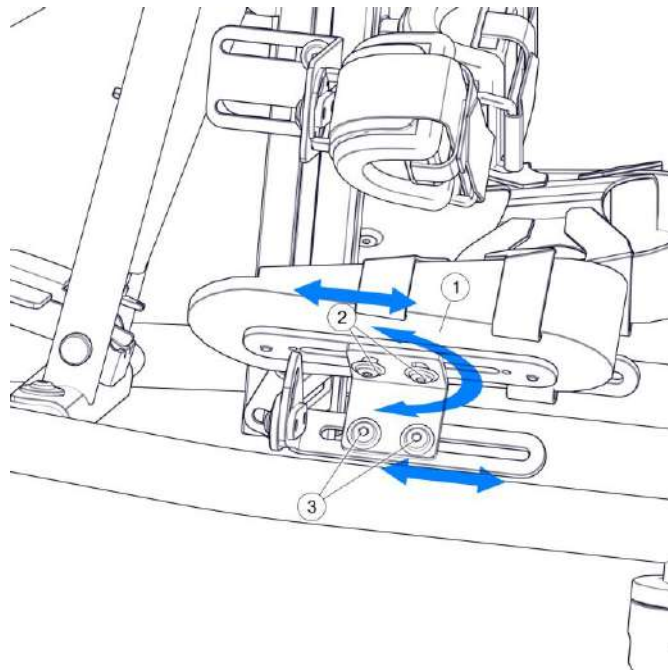

Figure 14
7.8.3. Adjustment (front-back) and rotation of the foot platform - Figure 14